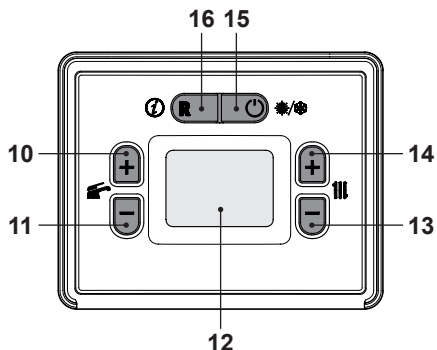
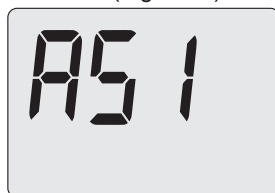

Fig. 10.1
Fig. 10.2
- Press 10 and hold until the LCD display shows the code **A51**, indicating entry into "parameter A51" (Fig. 10.2).
- By using buttons 13 or 14 (Fig. 10.1) it is possible to modify the value of parameter A51 from 1 to 52 weeks (52 = 1 year).
- Press 10 or 11 (Fig. 10.1) to confirm the value entered and return to the list of parameters (Fig. 10.2).
- By using buttons 13 or 14 (Fig. 10.1) it is
- Press 10 or 11 (Fig. 10.1) to confirm the value entered and return to the list of parameters (Fig. 10.3).
- Press the 15 button (Fig. 10.1) to exit "programming mode".